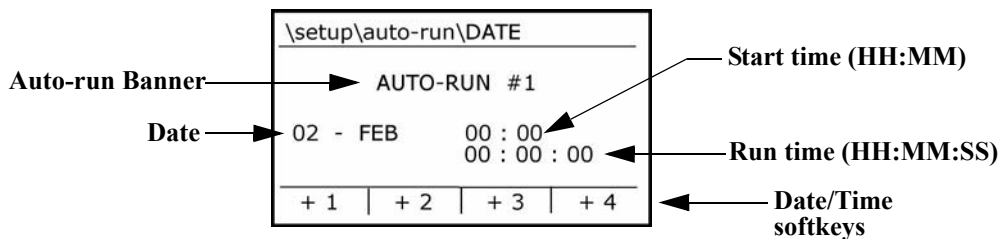

Figure 4–3: **DLX** Date Setup display
3. If you're using a **DLX** model, press any of the numbered Date/Time softkeys. For all other models, press the softkey labeled 1. If the key label is preceded by a negative sign (disabled), press it again to enable that selection. The Date Setup display appears with the Auto-Run Banner highlighted (Figure 4–3).